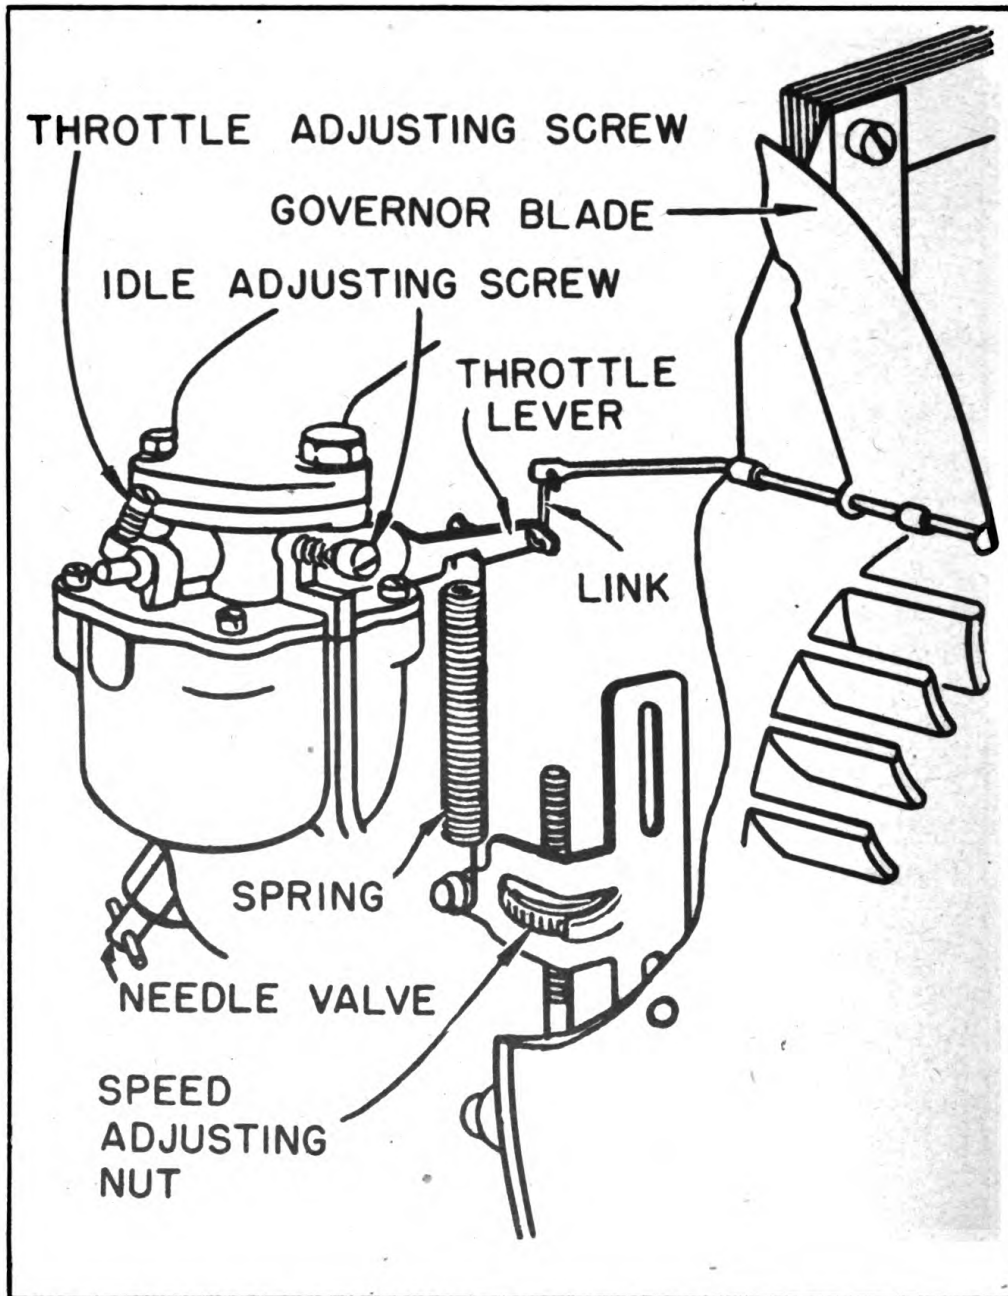

Figure 9.—Carburetor and governor (air-vane blade) hook-up
b. The pneumatic, or air-vane blade, governor is located inside the blower housing and is fastened to the magneto plate (fig. 9). The governor blade is actuated by air currents caused by the turning of the fan-type flywheel. The governor is attached by a link to the carburetor throttle shaft, which in turn controls the throttle valve. As the engine picks up speed, after starting, the governor blade is immediately affected by the air currents, and in turn acts upon the throttle shaft through the governor link. Any movement of the governor blade caused by a rise or drop in load affecting the engine speed, is immediately transmitted to the carburetor, thereby increasing or decreasing the throttle valve opening. A spring for regulating and controlling the action of the governor is attached to the carburetor throttle arm. This spring is adjustable by means of a thumbscrew, the speed adjusting nut. The speed of the engine varies between 2,600 and 3,000 rpm. for normal operation.
d. On models PE-77-A, B, and C, and some early PE-77-D's (air-vane blade governor) the speed adjustment is located beneath the carburetor on the magneto plate (fig. 9). The speed adjuster should be set so that the voltage reads 115 volts at full load. Turn the speed adjuster nut (fig. 9) to the *left* to increase engine speed and voltage; to the *right* and decrease engine speed and voltage.